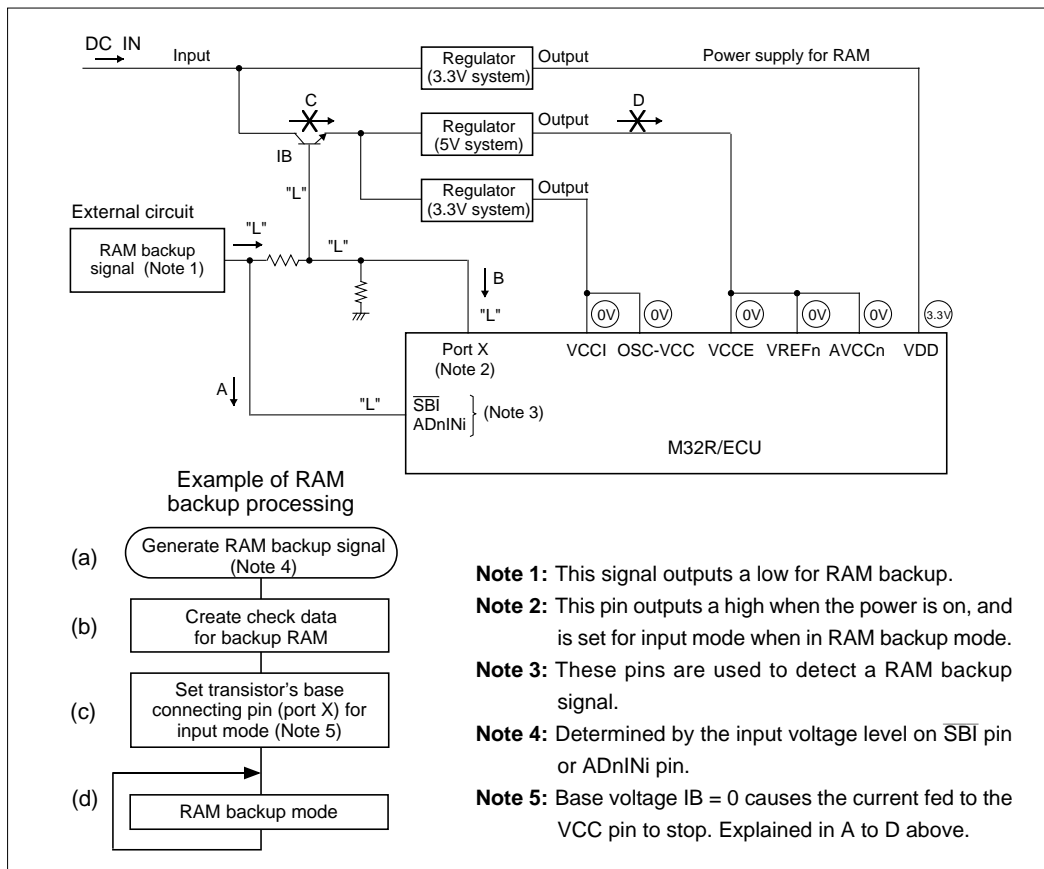
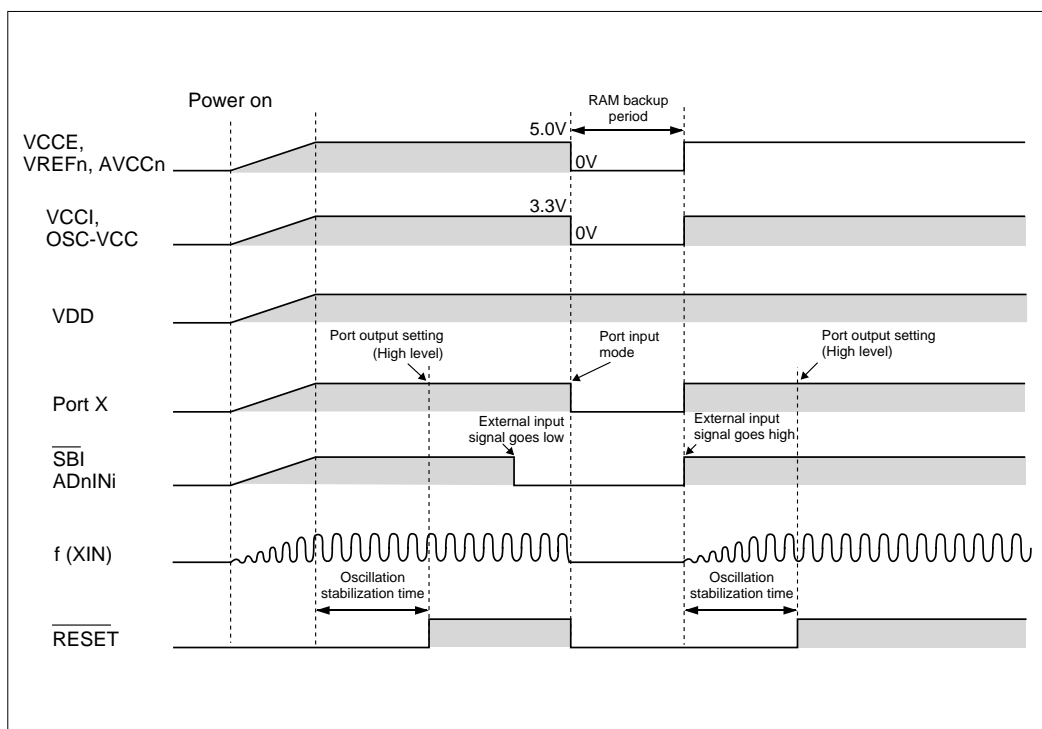

Figure 17.3.3 RAM Backup State for Low-Power Operation
Figure 17.3.4 Example of RAM Backup Sequence for Low-Power Operation
Figure 17.3.3 shows the RAM backup state of the M32R/ECU. Figure 17.3.4 shows a RAM backup sequence. When the external circuit outputs a low, input on the $\overline{\text{SBI}}$ pin or ADnINi pin goes low. A low on these input pins generates a RAM backup signal (A and (a) in Figure 17.3.3). To enable RAM backup mode, make the following settings.
- (1) Create check data to verify after returning from RAM backup to normal mode whether the RAM data has been retained normally ((b) in Figure 17.3.3).
- (2) To materialize low-power operation, set all programmable input/output pins except port X for input mode (or for output mode, with pins outputting a low) ((c) in Figure 17.3.3).
- (3) Set port X for input mode (B and (d) in Figure 17.3.3). This causes the transistor's base voltage, I_B , to go low, so that no current flows from the power supply to the VCC pin via the transistor (C in Figure 17.3.3). Consequently, the power to the VCC pin is shut off (D in Figure 17.3.3).